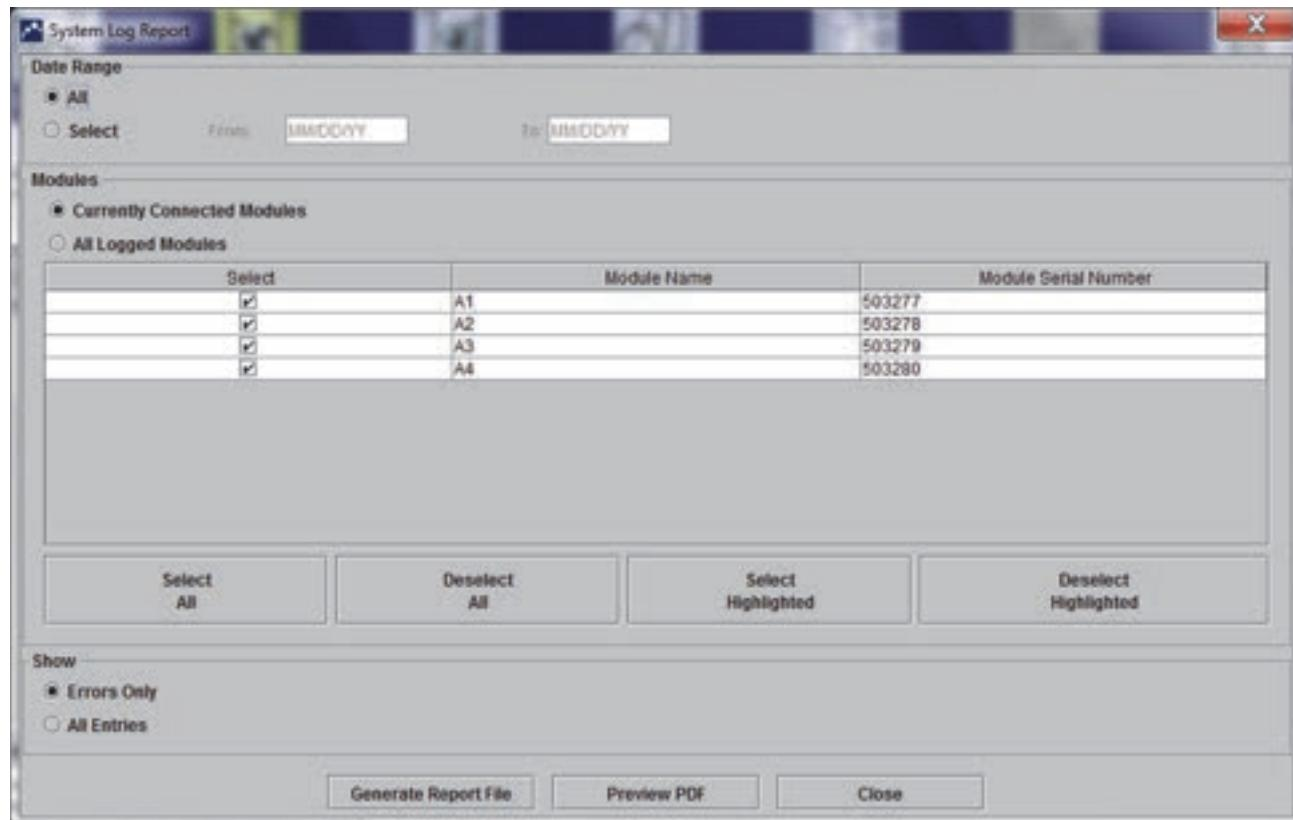

Figure 9-38. System Log Report Window
1. In the GeneXpert Dx System window, click **Reports** on the menu bar, and then click **System Log**. The System Log Report window appears. See Figure 9-38.
- Click the **Generate Report File** button on the System Log Report screen (see Figure 9-38) to create the PDF file of the test report. The Generate Report File dialog box will appear, which enables a file to be saved to a specified location. Click **Save** after navigating to the specific location.